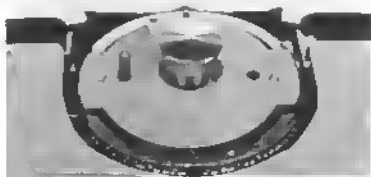

Figure 20
In front of and at each side of the anvil (22) are metal strips called **alignment guides** (38) (Figure 20). The base line of characters, being typed, must lie on the top edge of these guides\*. This enables the guides to be used to align copy vertically and to straighten copy horizontally in the machine. For accuracy the same guide (usually the left guide) should always be used.